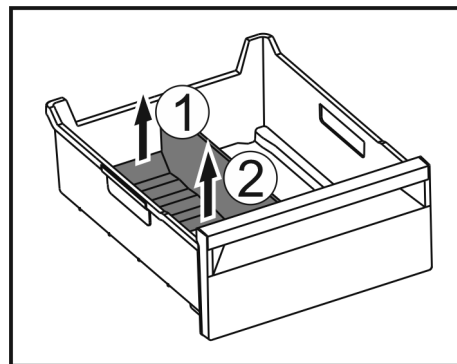

Fig. 112
- ▶ Lift the rear part of the ice compartment divider. Fig. 112 (1)
- ▶ Remove the ice compartment divider upwards. Fig. 112 (2)